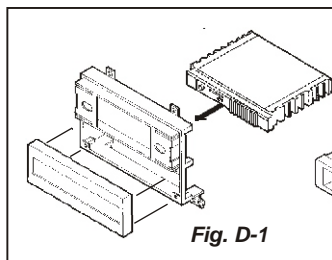

Fig. D-1
1. Disconnect the negative battery terminal to prevent an accidental short circuit. Remove the ashtray and (2) screws within the ashtray cavity. Unsnap the shifter boot molding and remove the (2) screws exposed. Unsnap the a/c control bezel and remove the (2) screws exposed. Pull the bezel away from the dash and disconnect any wiring. Remove (4) screws from the factory radio and disconnect the wiring. (see Fig. A)
4. **IF AN EQUALIZER WILL BE INCLUDED:** Attach the **Equalizer Faceplate** to the **Radio Housing** and mount the equalizer with the necessary hardware. (see Fig. D-1)